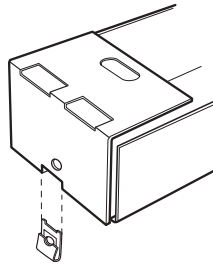

Figure 2
- See Figure 2.
- Voir la Figure 2.